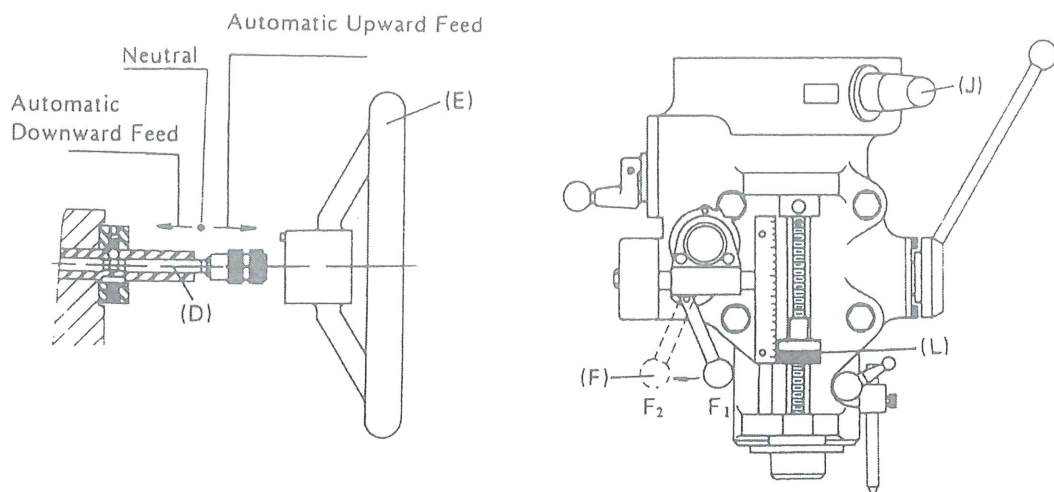

Figure 11
Note: in manual feed, the feed control handle "F" (Fig. 11) must be in the "F1" position.
To use the manual micro-feed, the power-feed transmission lever (J) (Fig. 11) must be placed at the "OUT" position, and the feed reverse knob (D) (Fig. 11) must be in the neutral position. To engage the overload clutch, lever "F" (Fig. 11) must be moved to the "F2" (Fig. 11). You can now turn handwheel "E" clockwise to lower the spindle, counter clockwise to raise it.
- e. The quill will move down when pressing knob "D" (Fig. 11) in, and pulling it out, the quill will go up (The middle is neutral).